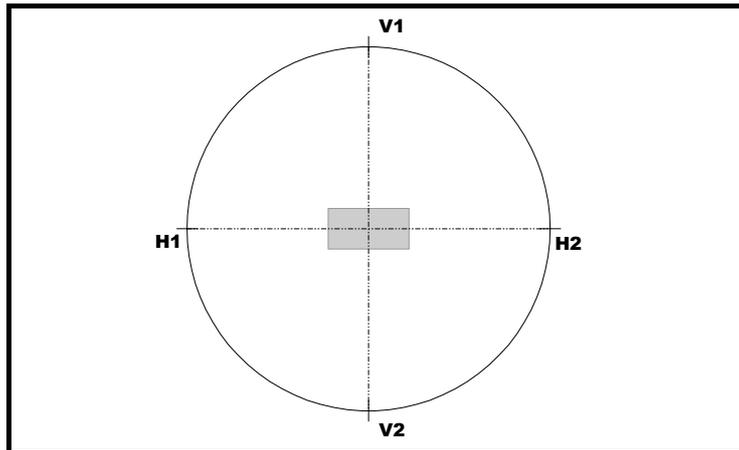

Figure 23: Final Beam after Horizontal and Vertical Alignment
- At Site A, turn the vertical motion screws until the installer at Site B reports maximum received power. (This assures that the beam spot is now positioned at the center of the TereScope1 receiver located behind the telescope lens, as shown in *Figure 23*. The received power should be *about* the same as the expected power given in *Table 3 of Appendix F: Received Signal Power vs Distance*. *Table 3* shows expected power for various distances.) Record the maximum received power in μW .